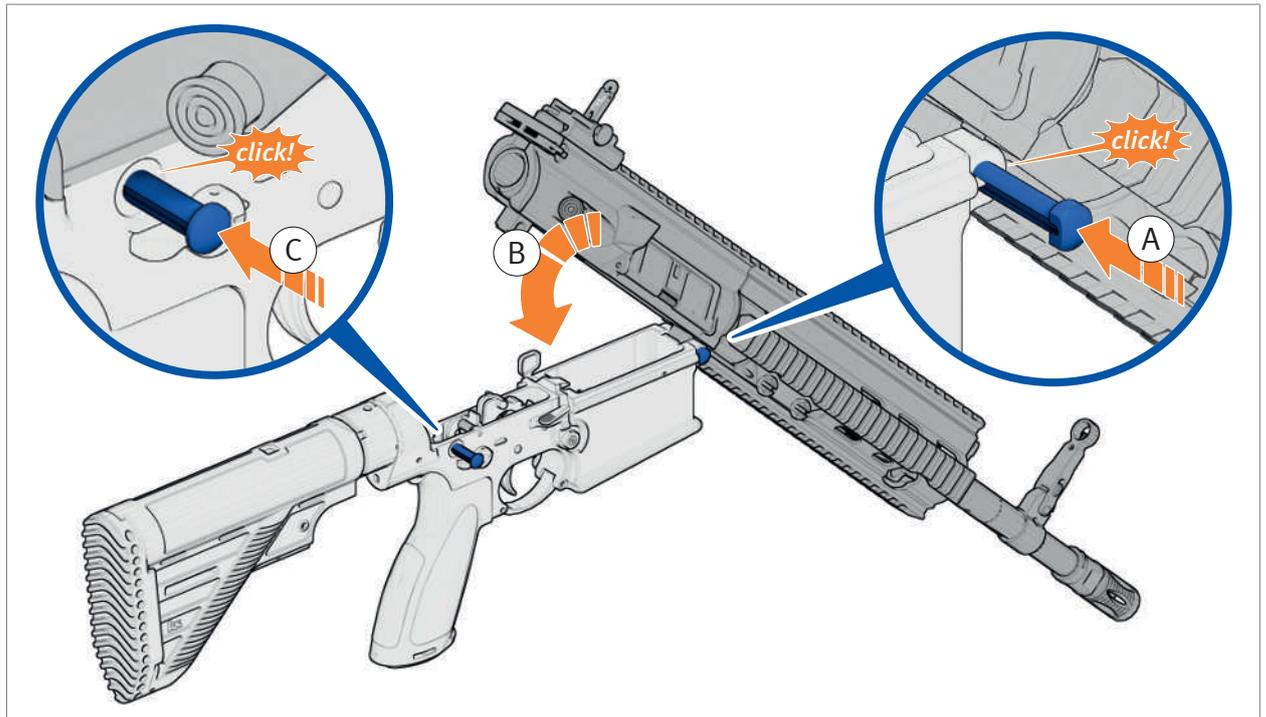

Fig. 125: Insert lower receiver
2. Insert lower receiver into front bore for locking pin with the front locking pin in upper receiver at an angle of about 45° (*Fig. 125*).
3. Press front locking pin in all the way to the left (*Fig. 125*).
4. Fold upper receiver downwards onto lower receiver up to the end stop (*Fig. 125*).